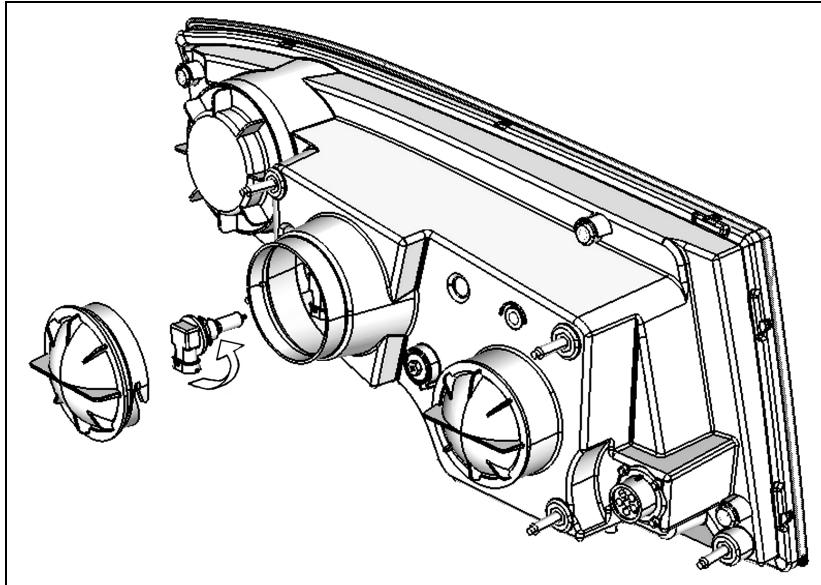

FIGURE 3: LOW BEAM AND CONNECTOR
5. Turn the bulb base counterclockwise (figure 3).